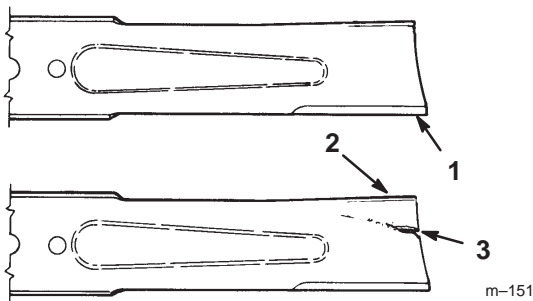

Figure 21
1. Inspect the cutting edges (Fig 21). If the edges are not sharp or have nicks, remove and sharpen the blades. Refer to Sharpening the Blades, page 26.
2. Inspect the blades, especially the curved area (Fig. 21). If you notice any damage, wear, or a slot forming in this area (item 3 in Fig. 21), immediately install a new blade.